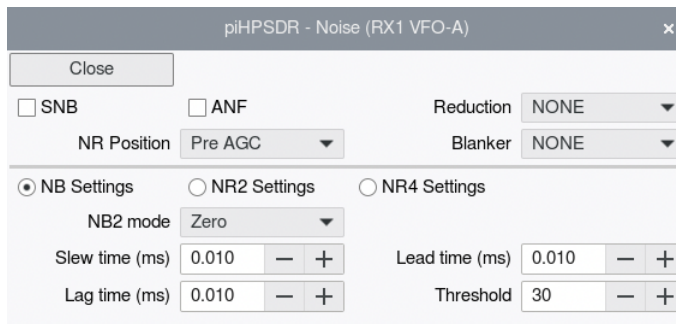
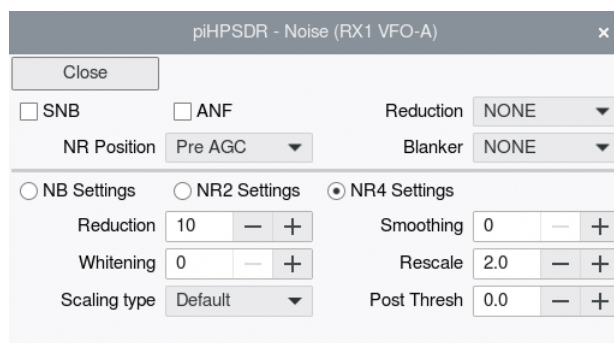

Fig. 8.4: The Noise menu (with NB settings).
Fig. 8.6: The **Noise** menu (with NR4 settings).
With the **Noise** menu you can select a variety of noise reduction and/or noise blanker capabilities (Fig. 8.4). The upper part of the menu always looks the same, the lower part lets you fine-tune parameters for the noise blanker (NB) or the noise reduction models NR2 and NR4. For an in-depth explanation of the NR/NR2/NB capabilities, the reader is referred to the WDSP manual. The noise reduction models NR3 (**RNNnoise**) and NR4 (**libspeckbleach**) more information can be found starting at their github repositories
You see a thin horizontal line in Fig. 8.4. Choosing one of the three buttons just below the horizontal line determines whether the lower part of the menu offers fine-tuning of NB, NR2, or NR4 settings. The set up for changing the noise blanker settings is shown in Fig. 8.4, below (Fig 8.5) you find the set up for changing the NR2 settings and the NR4 settings (Fig. 8.6). Note there are no settings for NR3: the default „full” RNNnoise model is hard-wired into the code and used.
The noise reduction menu with the NR4-specific settings is shown in Fig. 8.6.